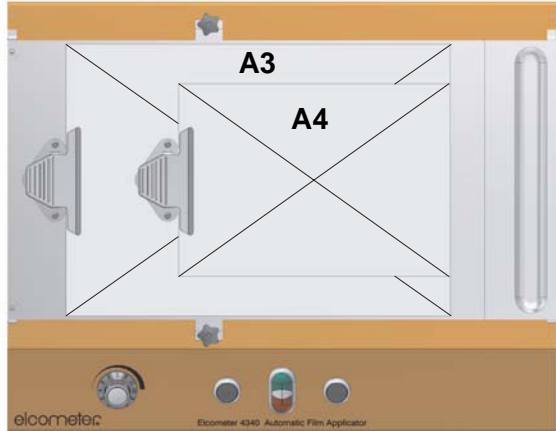

Figure 6. Clamp and substrate positioning
1. There are two mounting positions for the clamp. Screw the clamp onto the table in the position which suits the dimensions of the substrate (Figure 6).
3. Position the substrate on the table and clamp in place; A3 size substrate occupies virtually all of the table, A4 size substrate should be positioned on the right side of the table as shown (Figure 6).